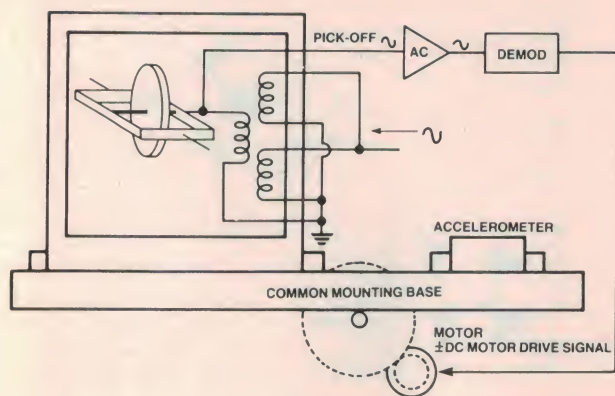

Figure 10. Gyro-to-platform stabilisation loop, general arrangement.
The rotating gyro assembly possesses angular stability; the accelerometers do not, and therefore must be stabilised. This is achieved by mounting the gyros and accelerometers to a common platform. As the gyro case is attached to the same assembly as the accelerometers, their angular movement reflects the displacement between the gyro case and the rotor. These changes in movement are detected and held to a tolerable level, which in turn stabilises the platform. The application of this technique is detailed in Figure 10; however, the circuit shown is for one axis (X) only.